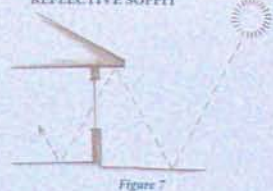

Figure 7
- Paint the porch ceiling or the undersides of eaves a light (reflective) color (see figure 7).